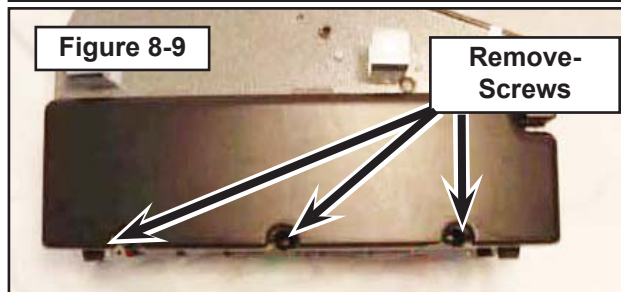

Figure 8-9
3. Remove three (3) screws along bottom edge of left side cover (**Figure 8-9**).